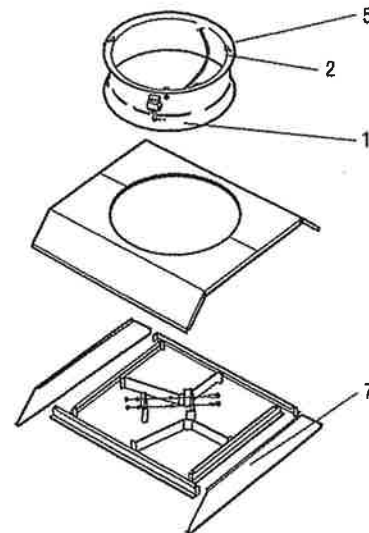

Figure 6b. Motor suspension COOL 350- and 450-series
- 8 **Figure 6b. COOL 350 and 450 series.**